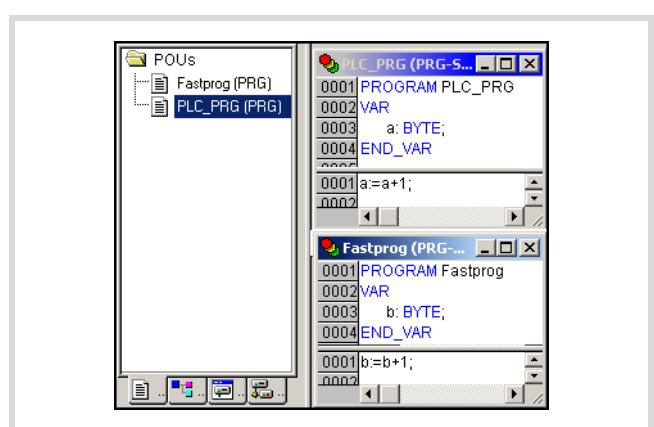

Figure: 54: Writing a program
► Create the POUs "PLC_PRG" and "Fastprog" as shown in figure 54